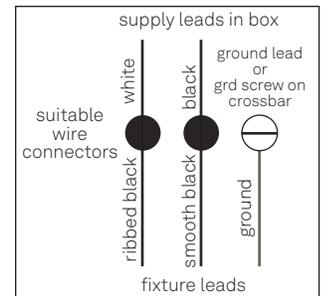

Figure 2. Wiring Diagram
- 3 Carefully supporting the fixture, connect the exposed leads of the fixture to the leads in the electrical box according to the wiring diagram (Figure 2) using the wire connectors provided.